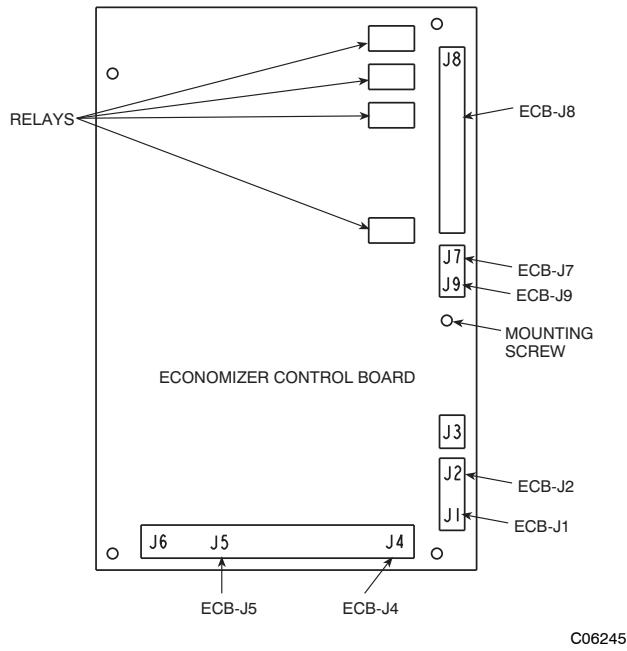

Fig. 6 - Economizer Control Board (ECB)
6. Connect the plugs identified in previous step to the economizer control board plugs J1, J2, J4, J5, J7, J8, and J9. Be sure to connect the plugs with the proper orientation. The locking tabs should capture the plug. See Fig. 6.